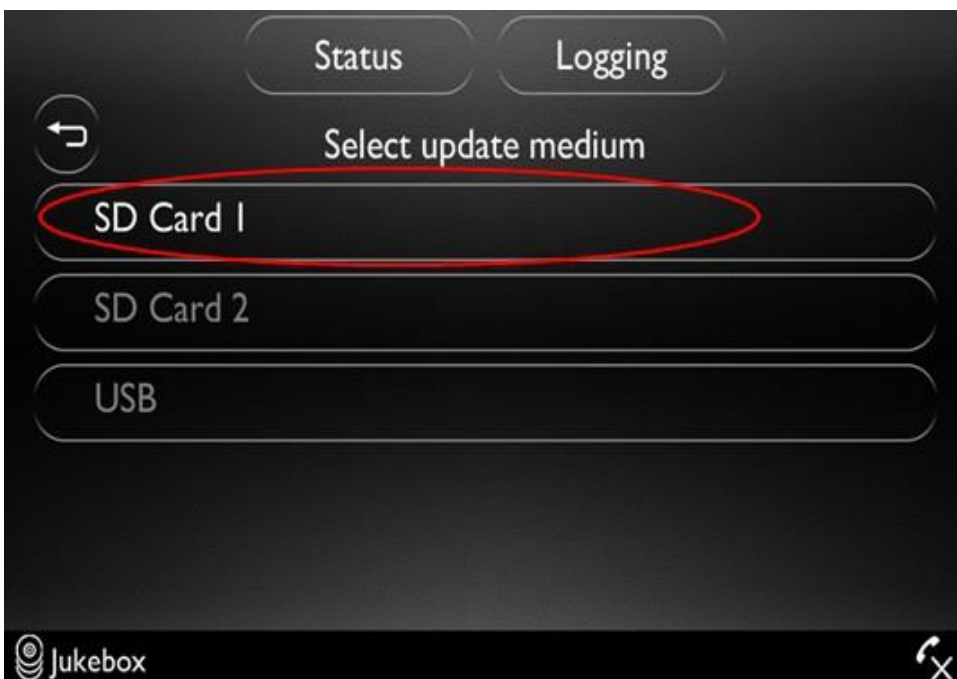
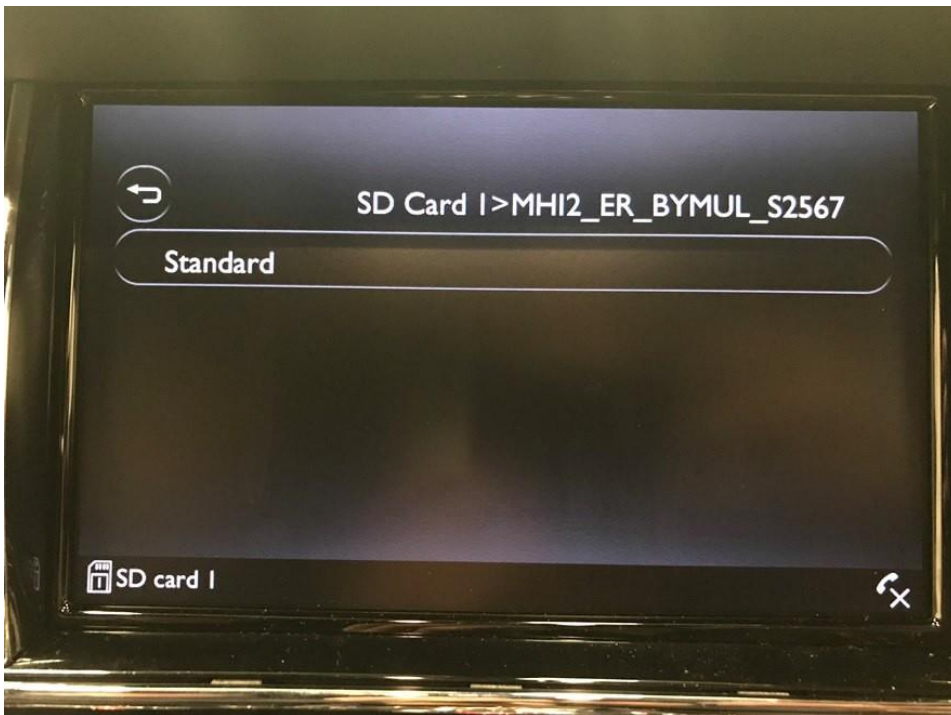

Figure 6
Figure 7
5. Select SD Card 1 (Figure 6), the next screen will display the reading of the SD card data (Figure 7).